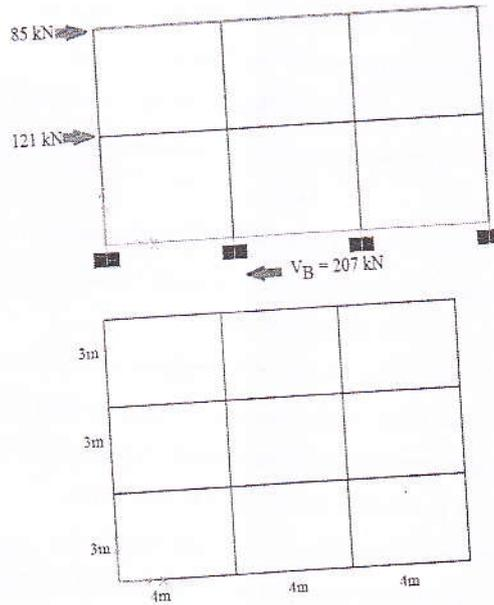

Fig.2
- Q.3 A two storied residential building with story height 3m is shown in Fig.2. The building is analyzed using IS1893-2016 method and base shear is obtained as 207 kN. The center of mass at each floor is offset by 1.5m in both directions. The interior frame has the stiffness double than exterior frame. Find design forces for each of the four frames if earthquake force is acting along Y- direction of these frames using the torsion provision in IS1893-2016. 15 L4 CO3